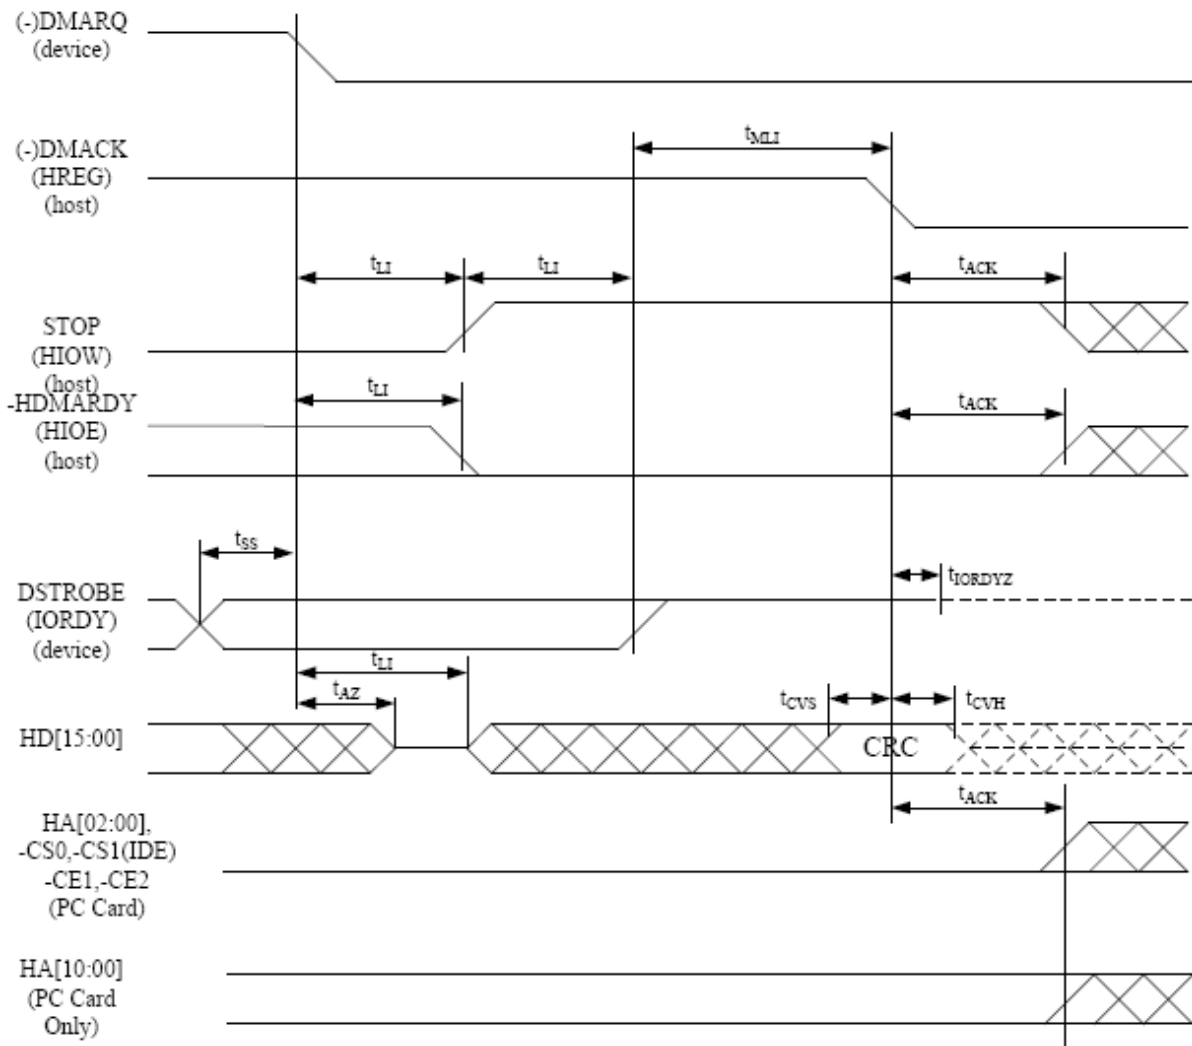
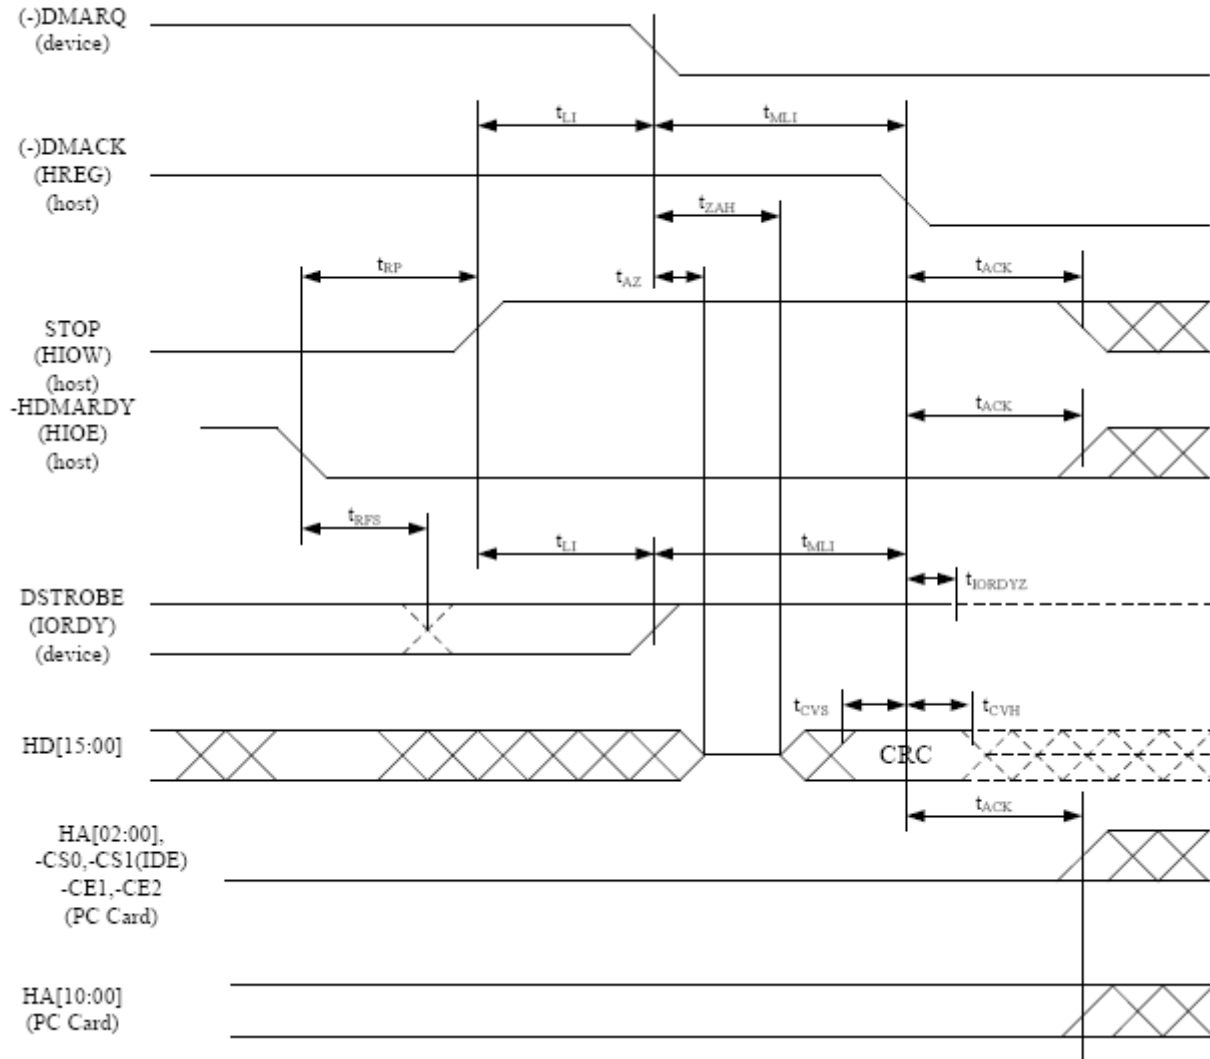

Figure 17: Ultra DMA Data-In Burst Device Termination Timing Diagram
Figure 18: Ultra DMA Data-In Burst Host Termination Timing Diagram
- (1) The parameters tUI, tMLI (in Figure 17: Ultra DMA Data-In Burst Device Termination Timing and Figure 18: Ultra DMA Data-In Burst Host Termination Timing), and tLI indicate sender-to-recipient or recipient-to-sender interlocks, i.e., one agent (either sender or recipient) is waiting for the other agent to respond with a signal before proceeding. tUI is an unlimited interlock that has no maximum time value. tMLI is a limited time-out that has a defined minimum. tLI is a limited time-out that has a defined maximum.
- (2) 80-conductor cabling shall be required in order to meet setup (tDS, tCS) and hold (tDH, tCH) times in modes greater than 2.
- (3) Timing for tDVS, tDVH, tCVS and tCVH shall be met for lumped capacitive loads of 15 and 40 pF at the connector where the Data and STROBE signals have the same capacitive load value. Due to reflections on the cable, these timing measurements are not valid in a normally functioning system.
- (4) For all timing modes the parameter tZIORDY may be greater than tENV due to the fact that the host has a pull-up on IORDY- giving it a known state when released.
- (5) The parameters tDS, and tDH for mode 5 are defined for a recipient at the end of the cable only in a configuration with a single device located at the end of the cable. This could result in the minimum values for tDS and tDH for mode 5 at the middle connector being 3.0 and 3.9 ns respectively.